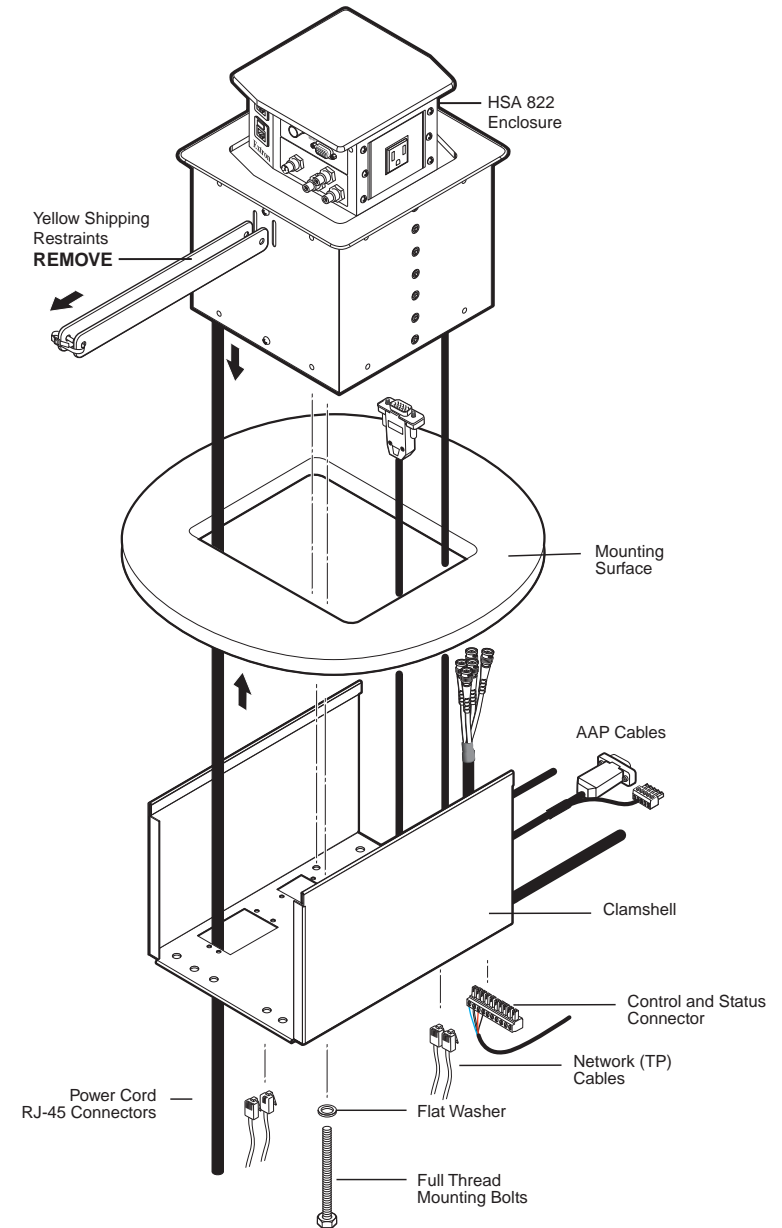

Figure 2-1 — Mounting the HSA 822M enclosure
See figure 2-1 and the following steps to install the HSA 822M:
3. From the underside of the table, bolt the clamshell to the enclosure with two bolts of optimum length (included) (see figure 2-1 on page 2-3).